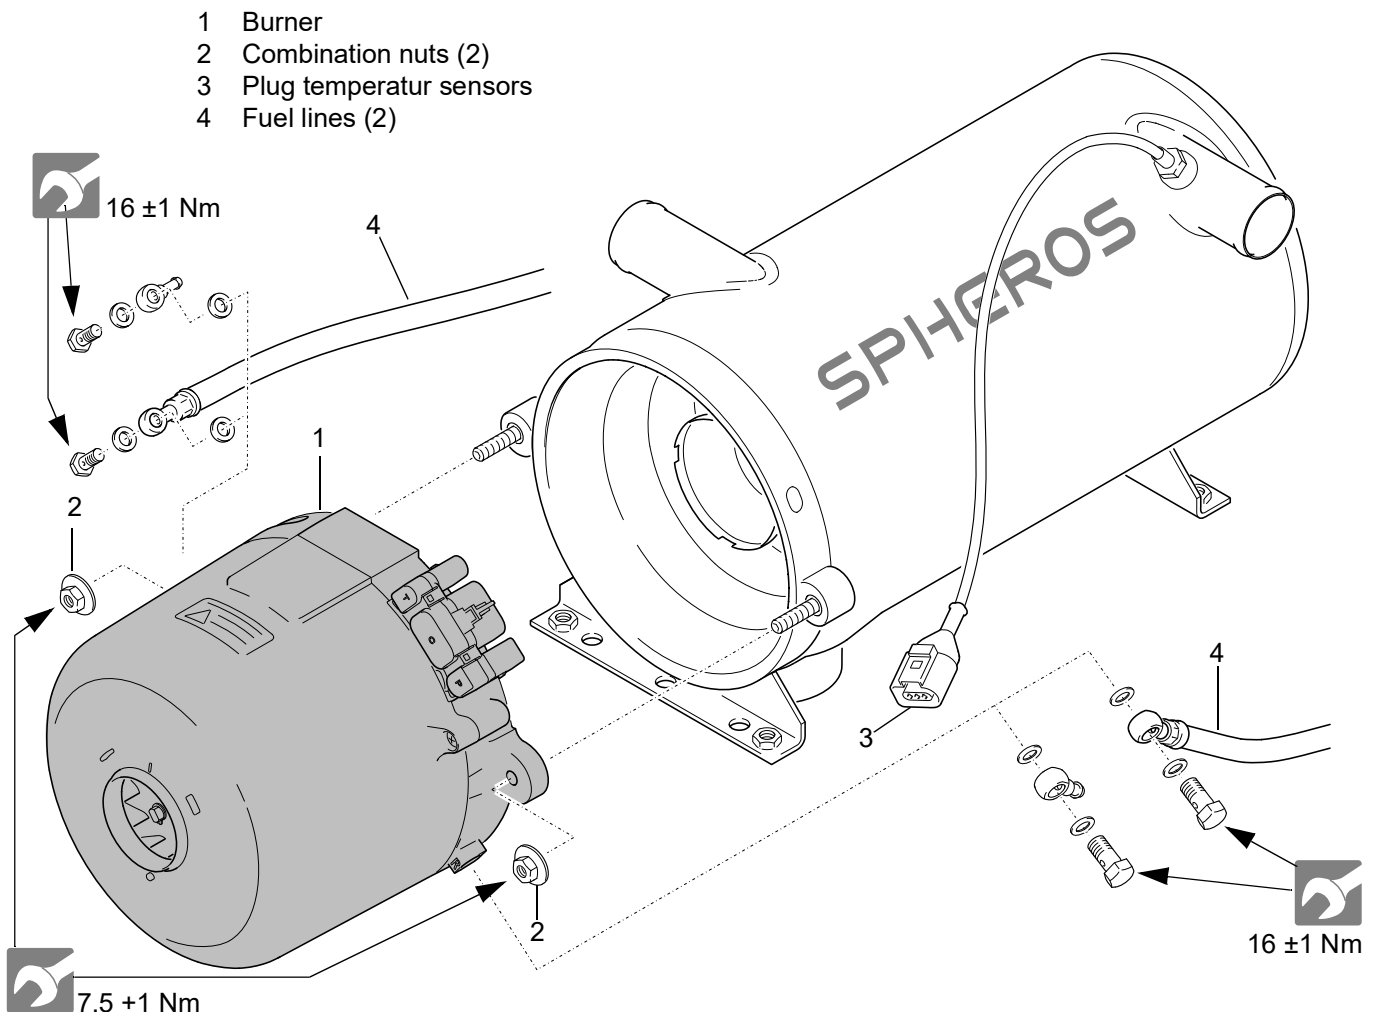
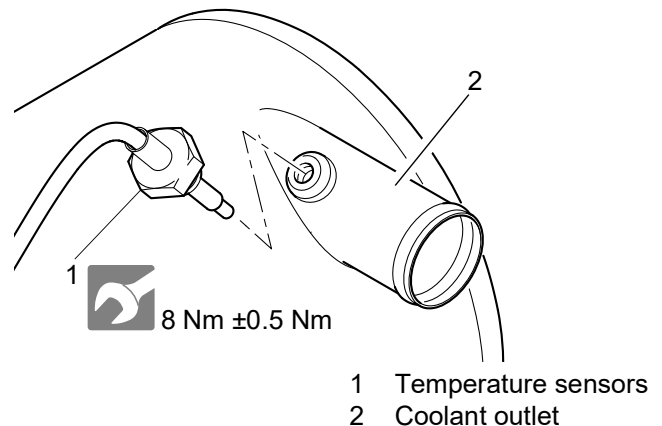

Fig. 801 Burner removal and installation
Fig. 802 Removal and Installation of the temperature sensors
6. Pull off fuel lines (4, Fig. 801) from the banjo or loosen them by removing the banjo bolt and close with blind plugs.
7. Unscrew combination nuts (2).
8. Remove burner (1).
1. Bring burner (1, Fig. 801) in assembly position and ensure center alignment and correct fit. Cables must not be crushed, pinched or kinked.
2. Place combination nuts (2) and alternately tighten them slightly.
3. Tighten combination nuts (2).
The two combination nuts M8, connecting the burner and the heat exchanger, must be tightened to torque, see Fig. 801, each and additional are to be secured using thread lock.
2. Disconnect the temperature sensor plug (3, Fig. 801).
3. Unscrew and remove the temperature sensors (1, Fig. 802). Collect the escaping coolant.
1. Manually screw the temperature sensors (1, Fig. 802) into the coolant outlet (2).
2. Tighten the temperature sensors (1).
3. Connect the temperature sensor plug (3, Fig. 801).